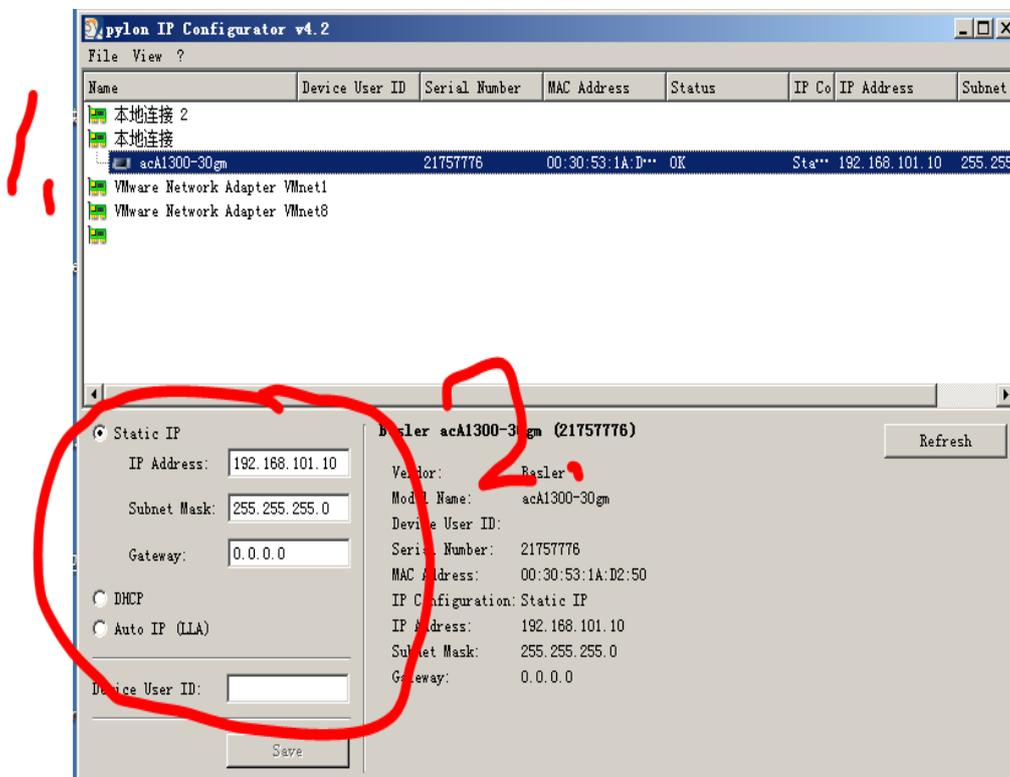

Figure 67
8. Double-click the 'pylon IP Configurator' shortcut in the desktop to open, and set camera IP address, as shown in Figure 67;